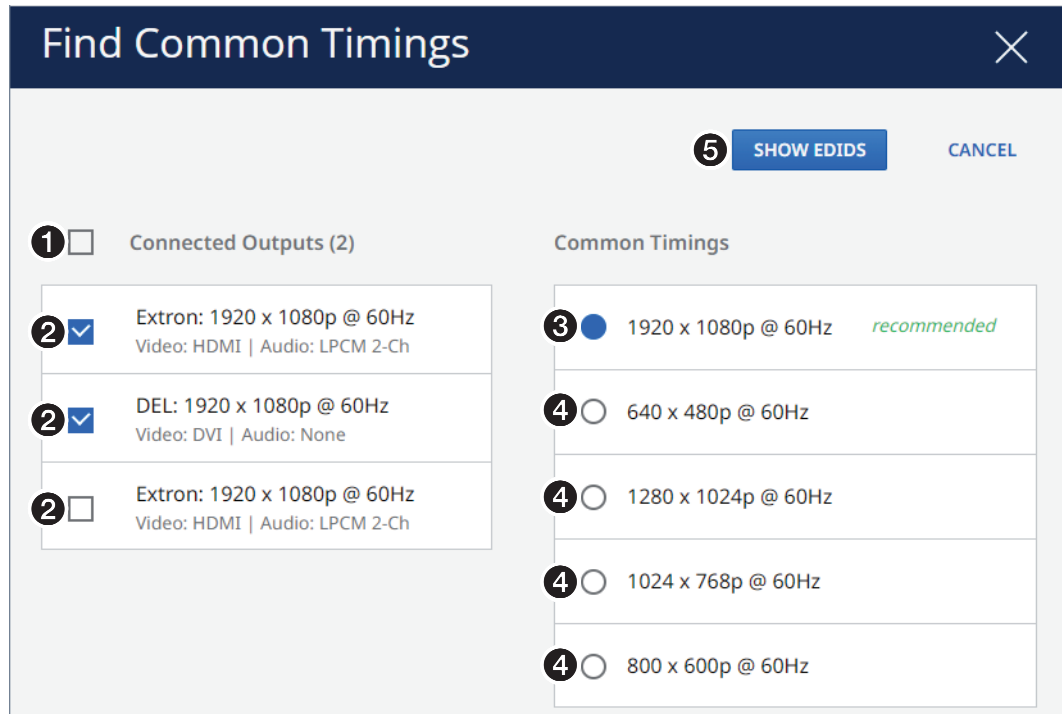

Figure 62. Selecting the Common Timing
2. If necessary, click **EDID** (❷). The EDID page displays a library of EDID files.
3. Click **Connected Outputs** (❸). If two or more connected outputs are detected, the Find Common Timings button appears (❹).
4. Click **Find Common Timings** (❹). The page shows a list of connected outputs and timings that are common to them (see figure 62 on page 61). The page also recommends the highest resolution and refresh rate compatible with all selected displays (❸).
5. Click the checkbox to select all **Connected Outputs** (see figure 62, **1**) or use the individual checkboxes (**2**) to select one or more connected outputs.